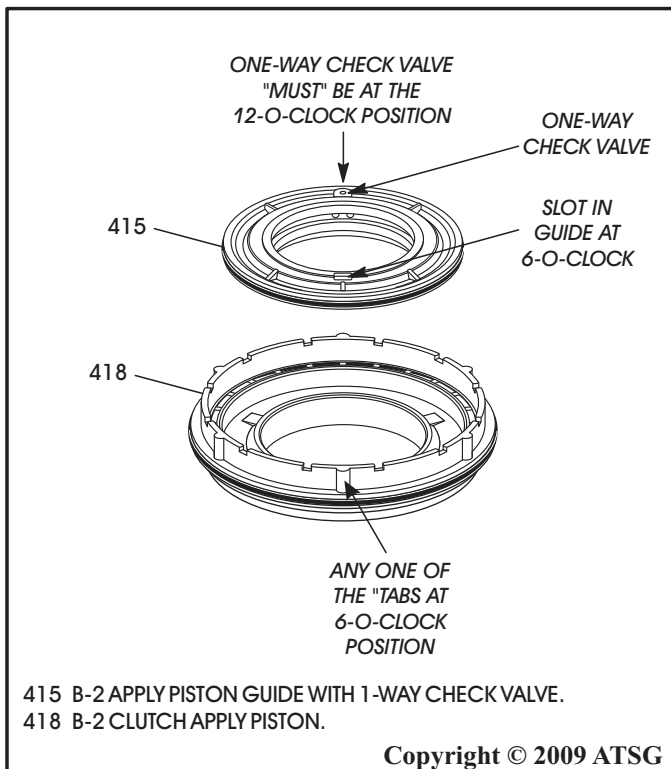

Figure 157
12. Place the B-2 apply piston on flat work surface with one of the "tabs" at **exactly** the 6-O-clock position, as shown in Figure 157.
13. Install B-2 apply piston guide with the 1-way check valve into the B-2 apply piston with the 1-way check **exactly** at the 12-O-clock position as shown in Figure 157.
15. The return spring retainer also has a square tab on bottom of the retainer at 6-O-clock position that must align with a slot in B-2 apply piston guide at the 6-O-clock position. Refer to Figure 157 and 158.